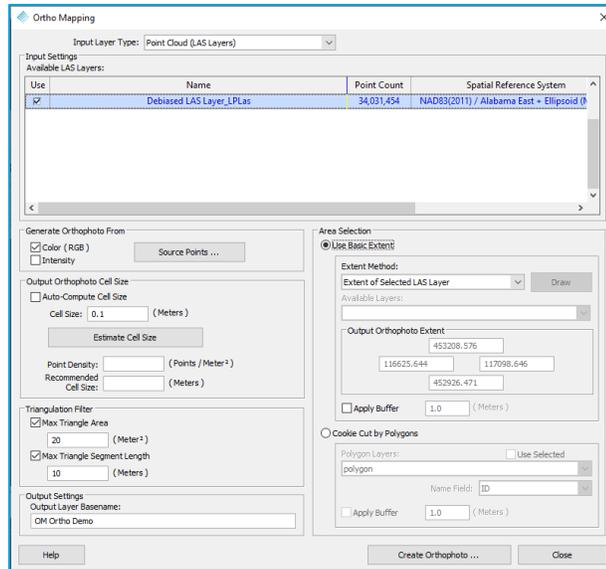

Figure 106 – Ortho Mapping dialog with Input Layer Type: Point Cloud (LAS Layers)
2. Select **Ortho Mapping** on the Sensor tab (Figure 105) to open the Ortho Mapping dialog (Figure 106). **Note:** To enable this tool requires a "Photo", or "Photo3000", or legacy "Full Photo" addon license be checked out in addition to the LP360 Drone license.
3. With the input layer type selected to be **Point Cloud** the Ortho Mapping dialog looks like Figure 106.